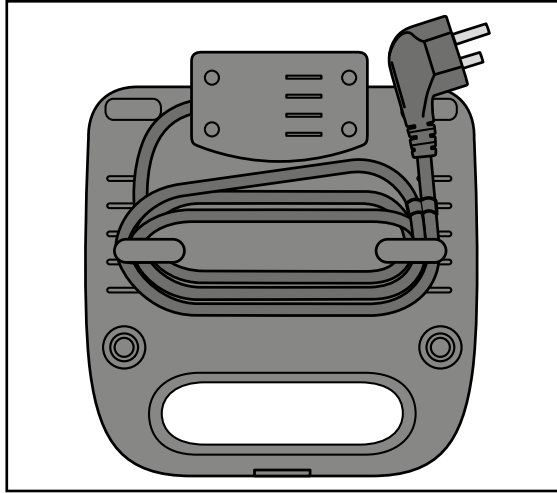

Fig. 1
- Wrap the power cable around the cable spool **16** of the cable retainer on the rear of the appliance. Fix the cable in place using the cable clip (see fig. 1):